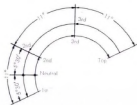

Fig. 11
2. A stopper type gear change system is installed so that the gears are changed as shown in Fig. 11. The operating angle between low and neutral and between neutral and second is one-half that between other gears. Because of this gears can be changed rapidly on this motorcycle for sports events or racing when neutral is not needed.